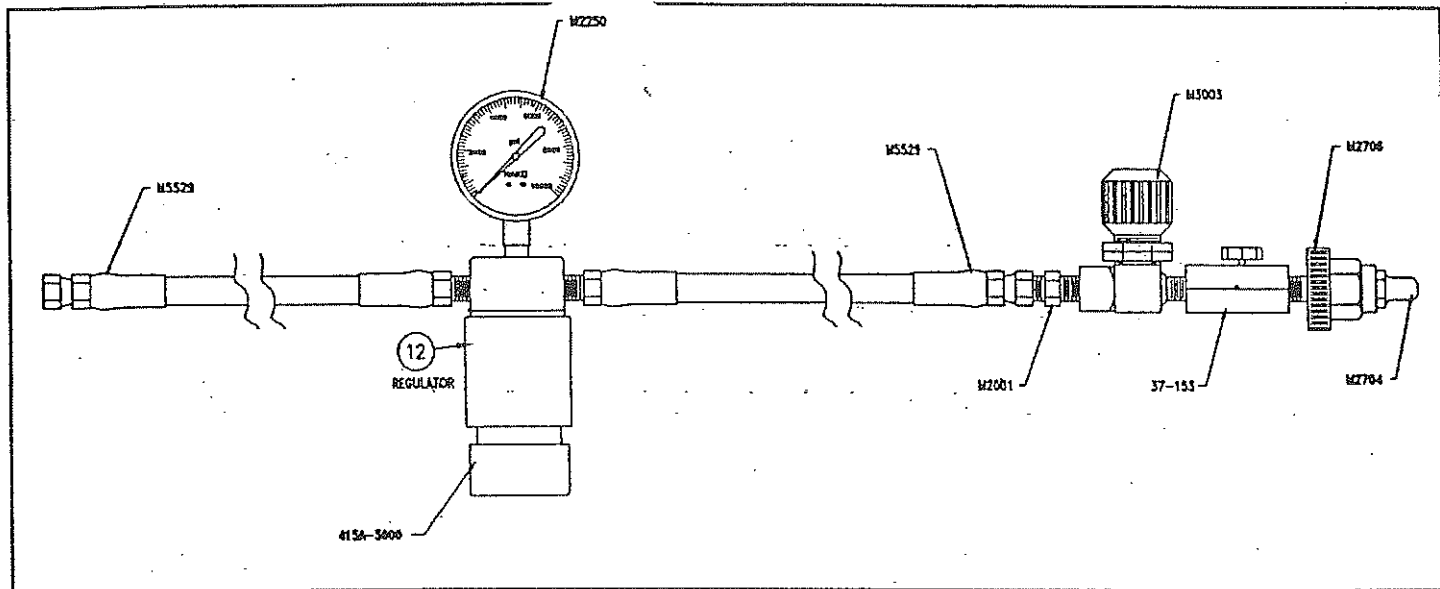

FIGURE 14-2 AIR SAMPLING DEVICE
Figure 14-2 shows the device required to : (1) convey the air to the sample from the compressor to the sample point, and (2) safely bleed the pressure from the hose assembly after the air sample is taken.
With a laboratory sampling kit and an appropriate interface as shown in Figure 14-2, air sampling is achieved as follows: